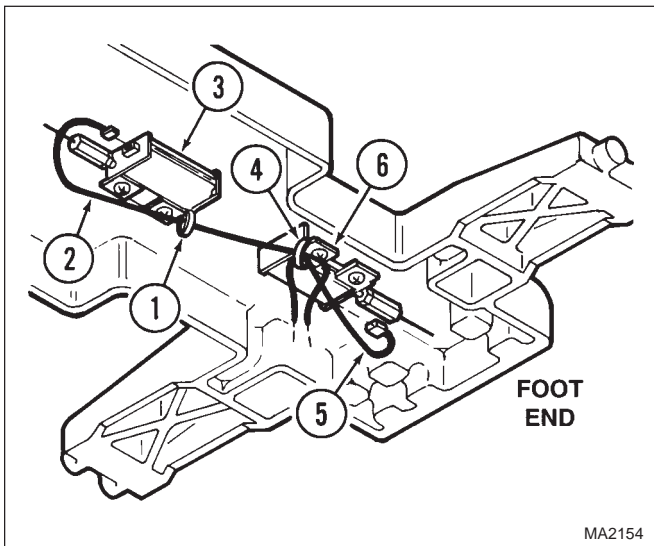

Figure 4-41. Connecting Wire Harnesses
- (37) Connect wire harness (5, Figure 4-41) to foot transducer (6).
- (38) Connect wire harness (2) to back transducer (3).
- (39) Secure wire harnesses (2 and 5) to foot transducer (6) with cable tie (4).
- (40) Secure wire harness (2) to back transducer (3) with cable tie (1).